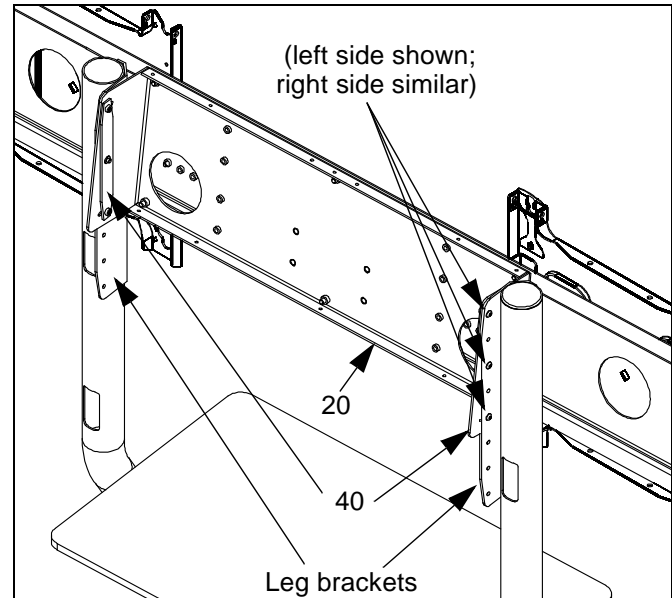

Figure 8: Tilt Adjustment
1. Using hex key (60), slightly loosen six screws used to attach head (20) and spreaders (40) to leg brackets (See Figure 8). Do NOT remove screws.